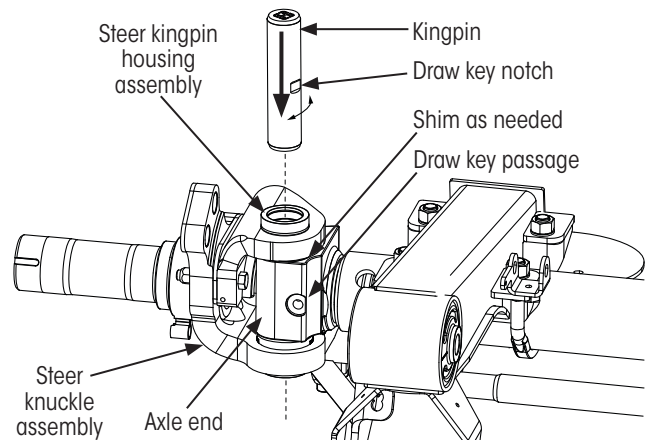

Figure 31: Kingpin orientation
If the reading is more than the correct specification listed in Table 6, verify thrust washer thickness. If thickness is less than .07", it must be replaced and repeat end play checks. If readings are still more than correct specification listed in Table 6, add shims (Figure 31 on page 18) to top side of knuckle king pin to bring end play into specification listed in Table 6.
6. **Orient** kingpin above the steer knuckle (Figure 31) so the draw key notch is facing the draw key passage.